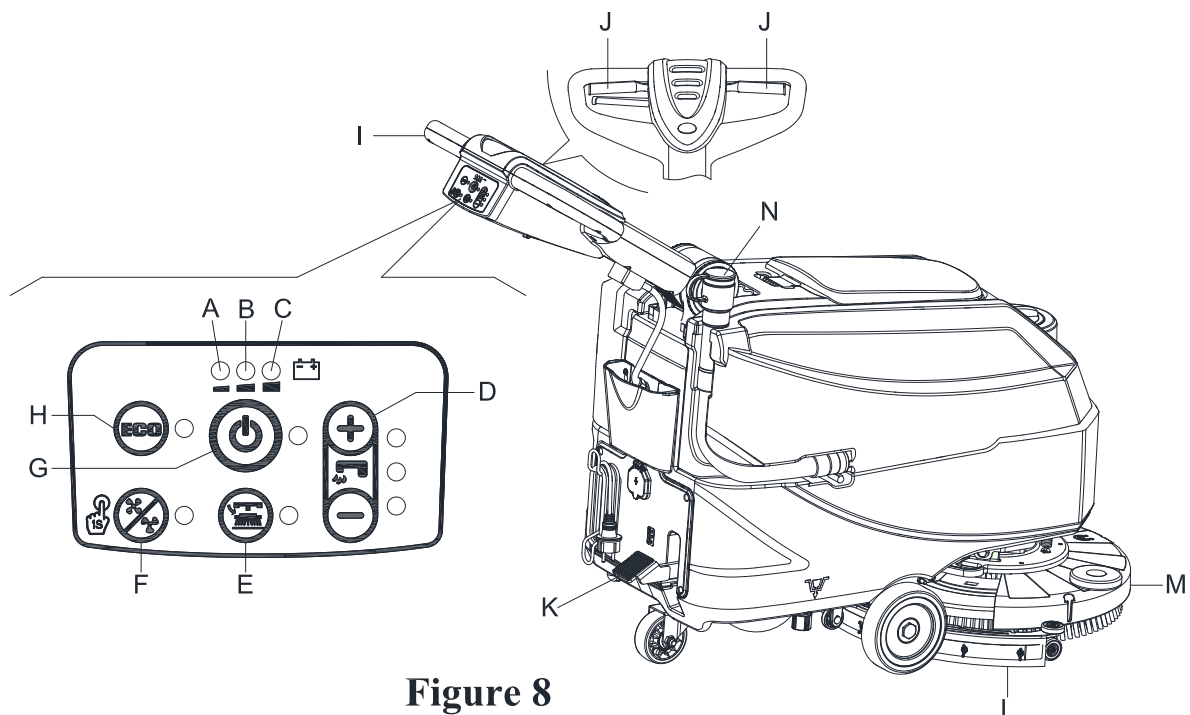
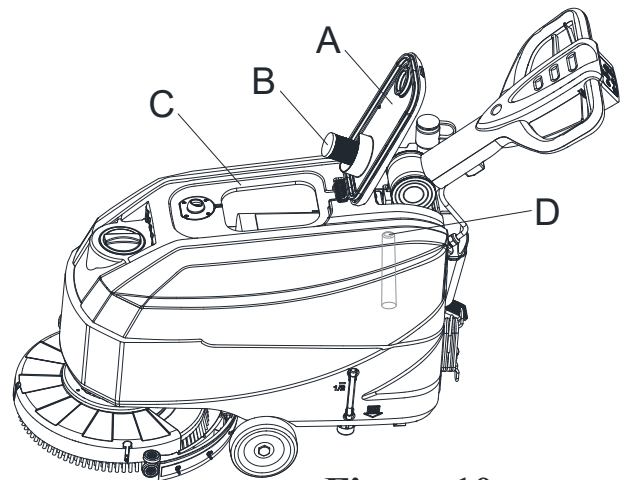

Figure 8
Figure 10
2. Push the machine to the area to be cleaned, by pushing it with the hands on the handlebar (I, Figure 8).
3. Lower the brush/pad-holder deck (M, Figure 8) and the squeegee (L) by lifting the pedal (K).
4. Press the start switch (G, Figure 8). Check that the green warning light (C) turns on (charged battery). If the yellow (B) or red warning light (A) turns on, Shutoff the power switch (G, Figure 8) and charge the batteries (see the procedure in Maintenance chapter).
5. Press the washing water flow control switches (D, Figure 8) as necessary, depending on the type of cleaning to be performed.
6. Start cleaning by pushing the machine with the hands on the handlebar (I) and pressing the safety switch lever (J).
To move the machine forward, press either the left or right safety switch lever (J, Figure 8) or both.
- While keeping both hands on the handlebar press the safety switch lever (J, Figure 8), then manoeuvre the machine and start scrubbing/drying the floor.
While the green warning light (C, Figure 8) stays on, the batteries allow the machine to work normally. When the green warning light (C) turns off, and the yellow warning light (B) turns on, it is advisable to charge the batteries, because the remaining charge will last for a few minutes (depending on battery characteristics and work to be performed). When the red warning light (A) turns on, batteries are fully discharged. After a few seconds, the brush/pad-holder is automatically tuned off.
An automatic float shut-off system (B, Figure 10) blocks the vacuum system when the recovery water tank (C) is full. The vacuum system deactivation is signaled by a sudden increase in the vacuum system motor noise frequency, also the floor has not dried.
If the vacuum system turns off accidentally (for example, when the float is activated because of a sudden machine movement), to resume the operation: turn off the vacuum system by pressing the switch (G, Figure 8), then open the cover (A, Figure 10) and check that the float inside the grid (B) has gone down to the water level. Then close the cover (A) and turn on the vacuum system by pressing the switch (G, Figure 8).
When the recovery water tank (C, Figure 10) is full, empty it according to the following procedure.
2. Lift the brush/pad-holder deck (M, Figure 8) and the squeegee (L) by pressing the pedal (K).
4. Empty the recovery water tank with the hose (N, Figure 8). Then, rinse the recovery tank (C, Figure 10) with clean water.
5. Remove the recovery tank lid (A, Figure 10) and clean the inside of the cover and the filter floater grid (B) with clean water.
6. Check the recovery tank (D, Figure 10) whether there is foreign body jam and clean it.